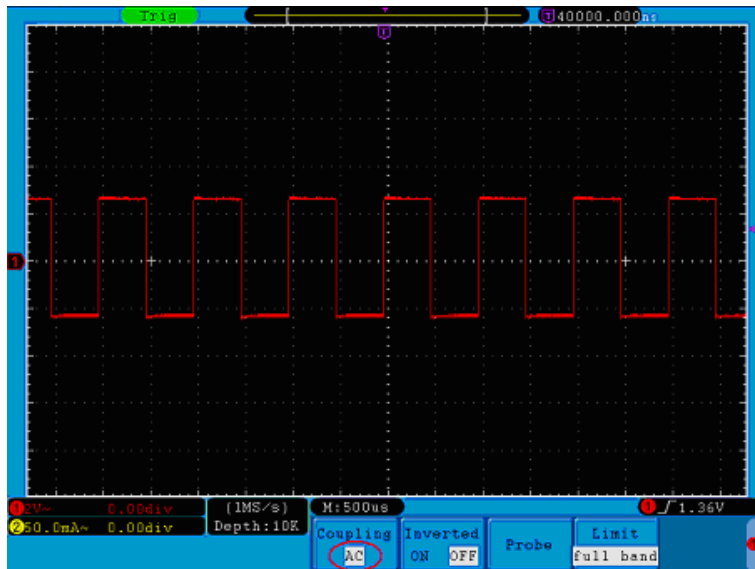

Figure 17. AC Coupling Oscillogram.
- 4 Then, press **F2** button to select the Coupling item as "**AC**". The direct current component of the signal is blocked. The waveforms are shown as **Figure 17**.